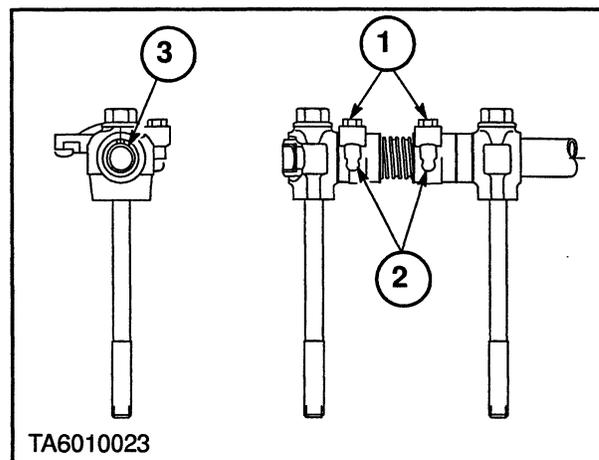

Figure 1-29
5. Position the shaft identification groove, 3, Figure 1-29, forward and upward. This ensures oil grooves and holes face downward.